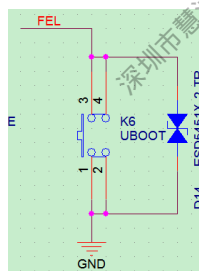

Figure 2-48 UBOOT Key
- The UBOOT button is used for the hardware trigger to download software. Please decide whether to reserve it according to the product requirements. As shown in Figure 2-48.